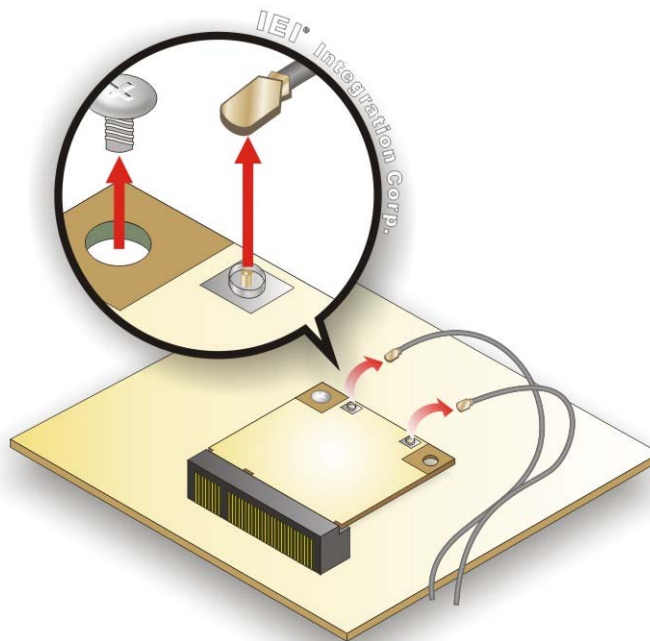

Figure 5-3: Releasing the WLAN Card
Step 5: Disconnect the antenna cables on the WLAN module and remove the retention screw to release the WLAN card (Figure 5-3).